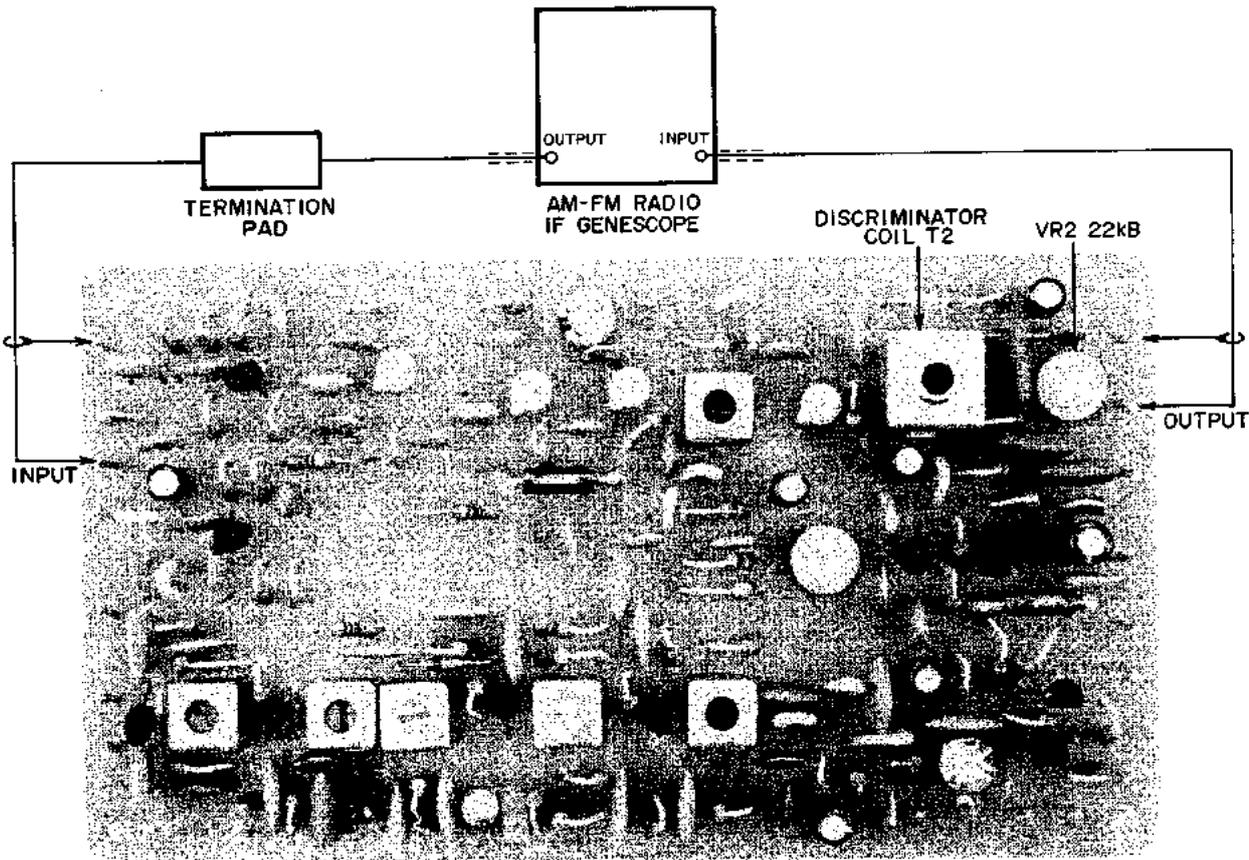

Fig. 3 INSTRUMENT CONNECTIONS
- 1) Connect the lead wires from an AM-FM Radio IF GENESCOPE (hereinafter referred to as GENESCO) to the input as well as the output of the FM-AM IF Amp. P.C. Board as shown in Fig. 3.